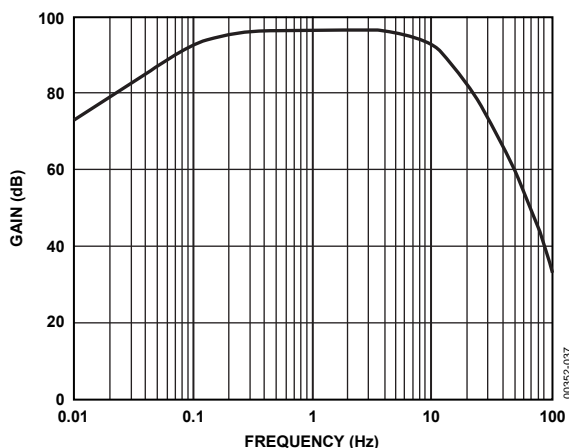

Figure 36. 0.1 Hz to 10 Hz Peak-to-Peak Voltage Noise Test Circuit Frequency Response
- The test time to measure noise of 0.1 Hz to 10 Hz should not exceed 10 sec. As shown in the noise-tester frequency response curve of Figure 36, the 0.1 Hz corner is defined by only one pole. The test time of 10 sec acts as an additional pole to eliminate noise contribution from the frequency band below 0.1 Hz.